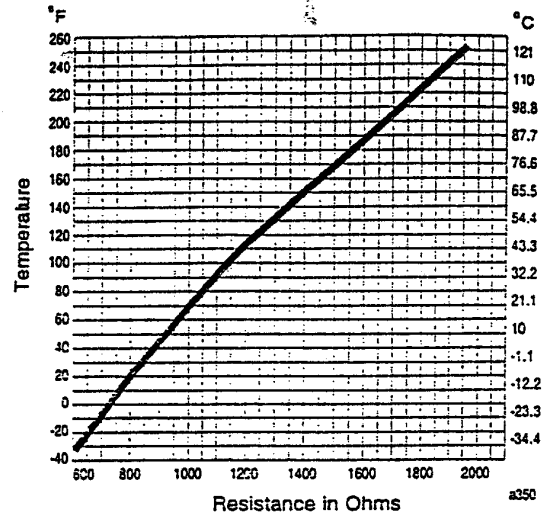

Figure 8: Temperature vs. Resistance Chart for the SET189 Series Sensor
- b) Disconnect the sensor from the control. Using an ohmmeter, measure the resistance across the two sensor leads. Consult the Temperature vs. Resistance Chart (Figure 8) to verify sensor conformance.